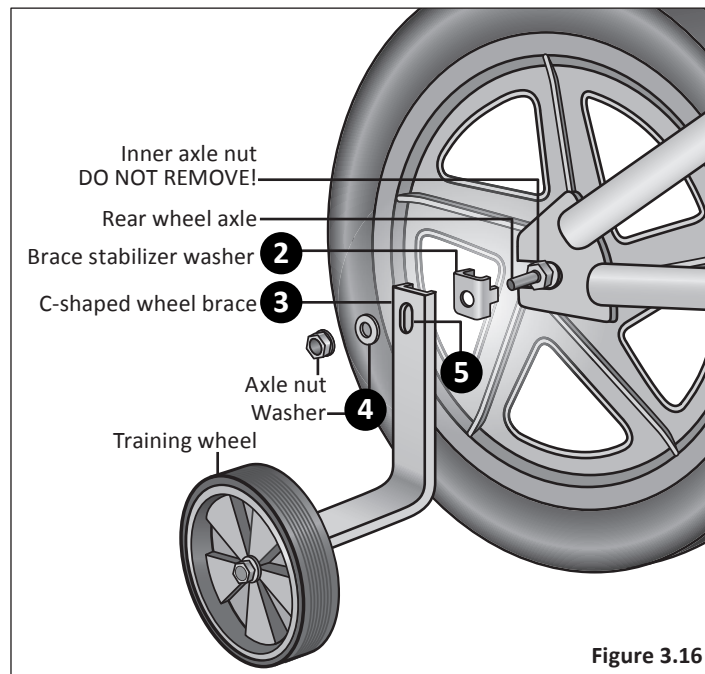

Figure 3.16
- 1 Remove the outer axle nut and washer from the rear wheel axle. **Figure 3.16**